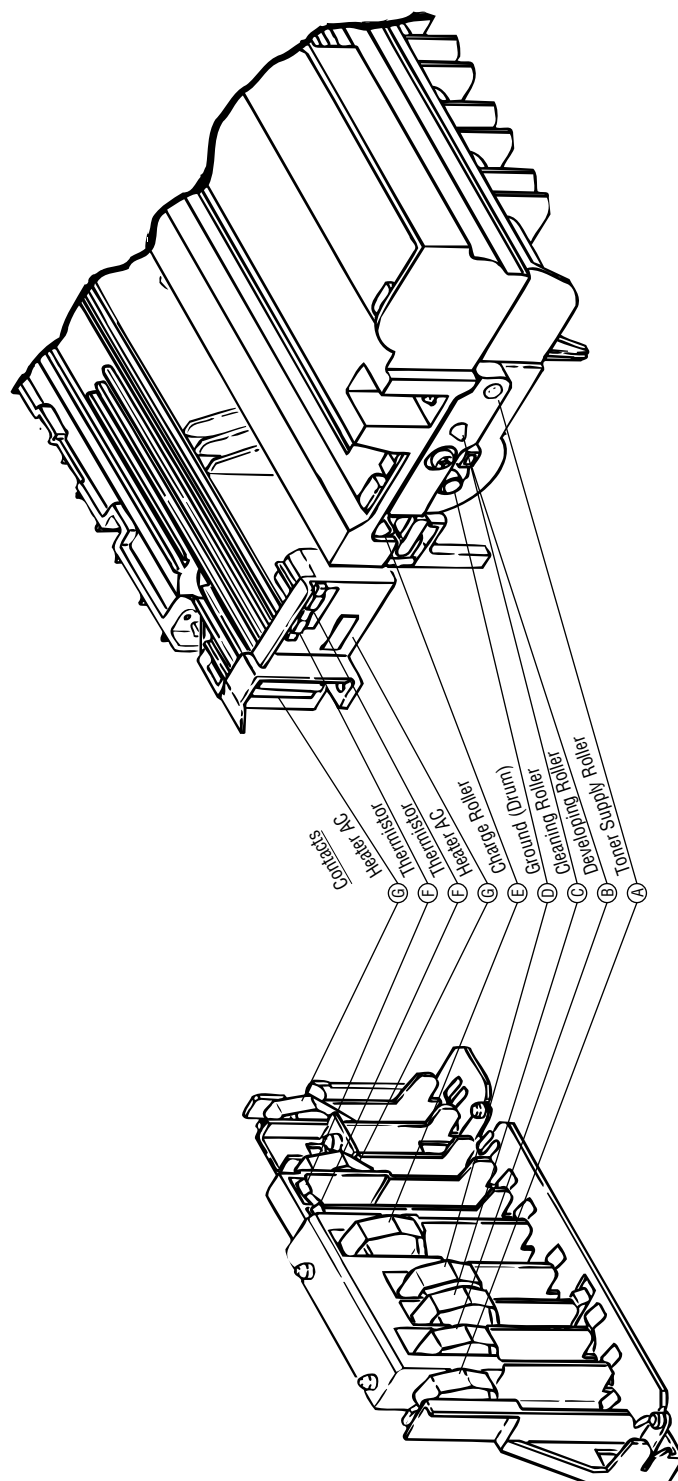

Figure 6-4
• Yes Are the contact of the developing roller and the contact of the toner supply roller of the image drum unit in contact with the contact assembly properly (see Fig. 6-4 ① and ②)?